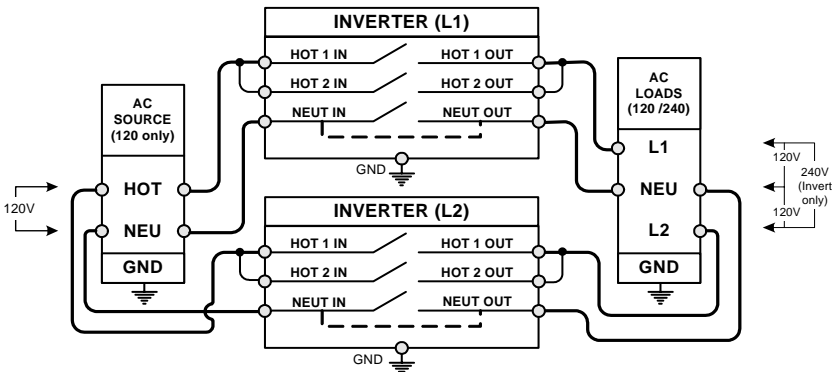

Figure 8, Single In/Single Out (30A with 120VAC only source)
Figure 8, Single In/Single Out (30A with 120VAC only source)	10
- **Single-phase (120VAC only)** - This AC source has one 120VAC line, one neutral and a ground. The 120VAC line is fed to both the HOT 1 IN's of each inverter and when in charge mode, it will pass thru to the HOT 1 OUT's of each inverter. The incoming power is shared with the charger, but since the two lines come from the same source (unlike the split-phase type), the two lines are in-phase and the voltage between the HOT 1 OUT lines will be zero. While this AC source is used to charge your batteries, you must remember that you **will not be** able to power any 240VAC loads (voltage from L1 to L2 will be zero). Once the AC source is disconnected and the inverters again start inverting, you can reconnect your 240VAC loads. See figures 8 and 10.